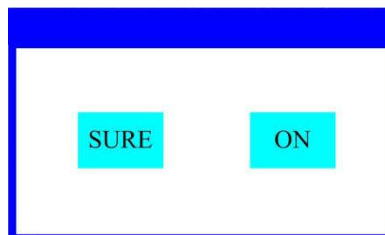

Figure 5 Dialog of confirm
- When the parameter is a key item, chick corresponding item, a dialog shown in Figure 5 will been popup ask for the confirm. Chik 'sure' to confirm.